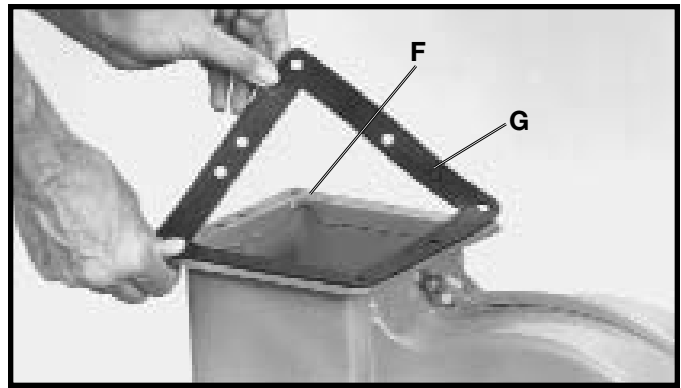

Fig. 9
4. Apply a bead of silicone sealant around flange of chute (F) Fig. 9. Align holes in ten-hole gasket (G) Fig. 9, with mounting holes in blower flange (F) and press gasket onto flange as shown.